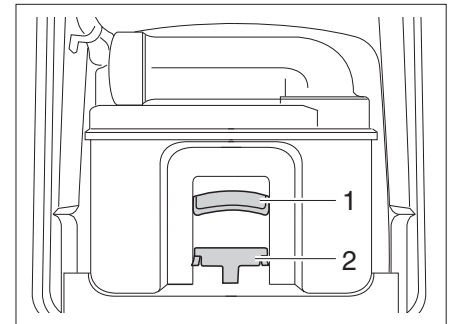

Fig. 103 Thetford cassette
- Pull the holding bracket (Fig. 103,1) upwards and pull out the Thetford cassette (Fig. 103,2).